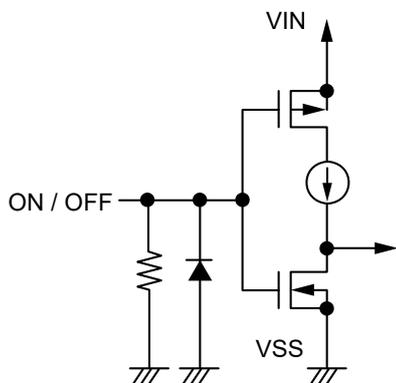

Figure 18 S-1333 Series A / C type
When the ON / OFF pin is set to OFF level, the entire internal circuit stops operating, and the built-in P-channel MOS FET output transistor between the VIN pin and the VOUT pin is turned off, reducing current consumption significantly. Note that the current consumption increases when a voltage of 0.25 V to $V_{IN} - 0.3$ V is applied to the ON / OFF pin. The ON / OFF pin is configured as shown in **Figure 18** and **Figure 19**.
*1. Note that the IC's current consumption increases as much as current flows into the pull-down resistor when the ON / OFF pin is connected to the VIN pin and the S-1333 Series A / C type is operating (refer to **Figure 18**).